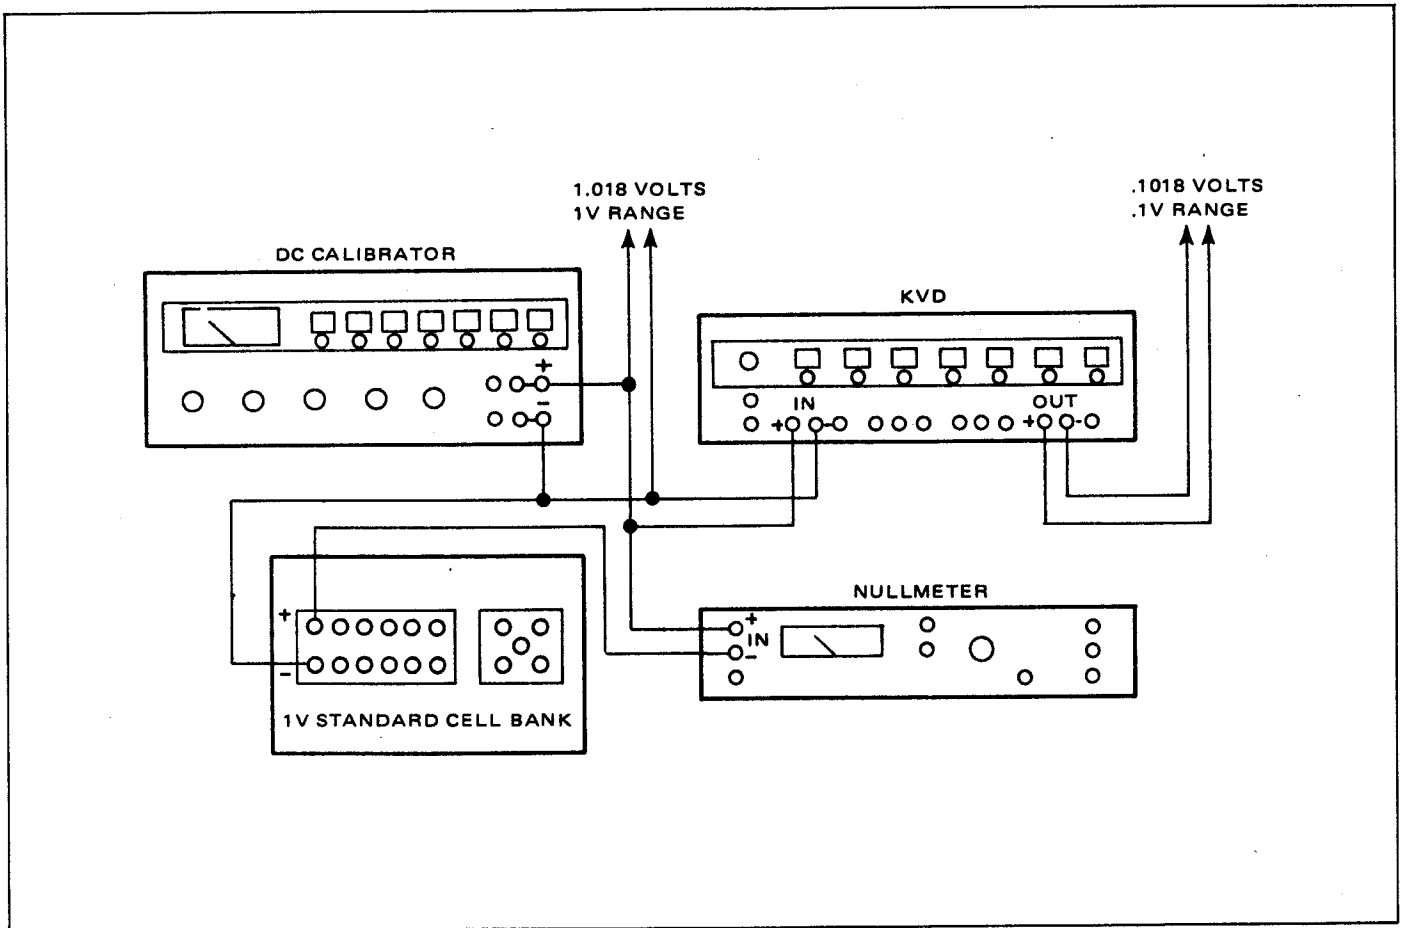

Figure 5.2 - 1V, .1V Sources
5.3.4.3 The 1 volt source is derived and equal in voltage to a single certified standard cell by the method illustrated in figure 5.2. The setup is as follows:
5.3.4.4 The .1 volt source is derived from the 1 volt source by use of a precision voltage divider in the method illustrated in figure 5.2.